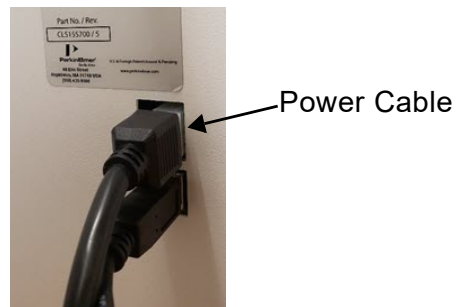

Figure 5. BioQule NGS Power Cable
- 4 Connect the provided power cable from the power supply block to the power port (see Figure 5) on the back of the instrument.